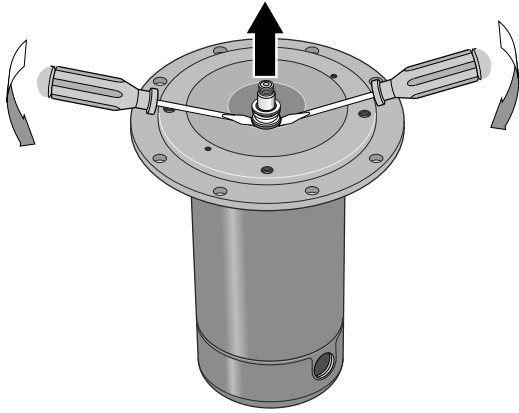

Figure 16 – Remove Seal plate
3. Remove rotating half of seal by placing two screwdrivers under seal ring and **carefully** prying up (Figure 16).